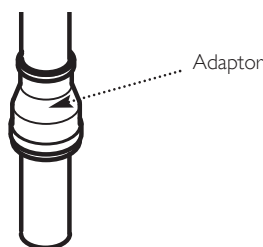
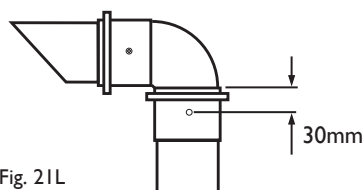

Fig. 21k
Fig. 21l
- The 60Ø exhaust can now be fitted. Slide the adaptor over the plain end of the 60Ø exhaust (Fig. 21k) and engage the exhaust in the terminal. Slide the adaptor down over the spigot. Mark and drill the adaptor, using a 2mm bit, as shown in Fig. 21l. Secure the adaptor to the spigot using one of the screws supplied.
- Mark and drill the 60Ø exhaust, using a 2mm bit, as shown in Fig. 21l. Complete the installation of the 60Ø exhaust, securing in the brackets.